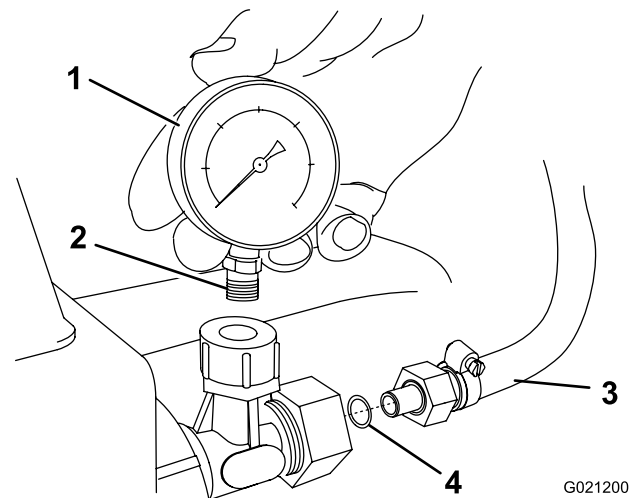

Figure 11
- Wrap thread-sealing tape counterclockwise around the threads of the gauge (Figure 11).
- Install the pressure gauge into the open port to the right of the control valve (Figure 11).
1. Locate the O-ring in loose parts and lubricate it using a non-petroleum based lubricant such as vegetable oil. Install the O-ring between the long hose and the control valve assembly (Figure 11).
2. Connect the threaded fitting on the end of the long hose to the control valve assembly (Figure 11).